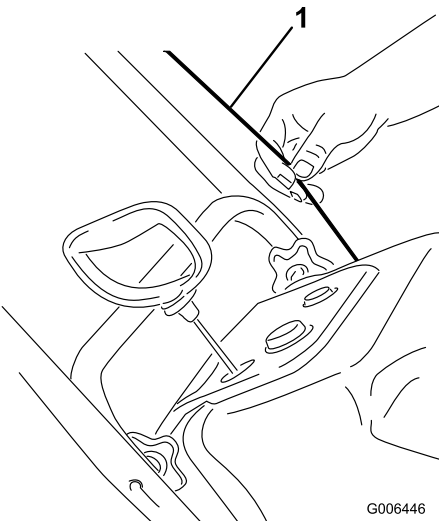

Figure 6
**Important:** Ensure that you do not pinch or kink the control cable (Figure 6).